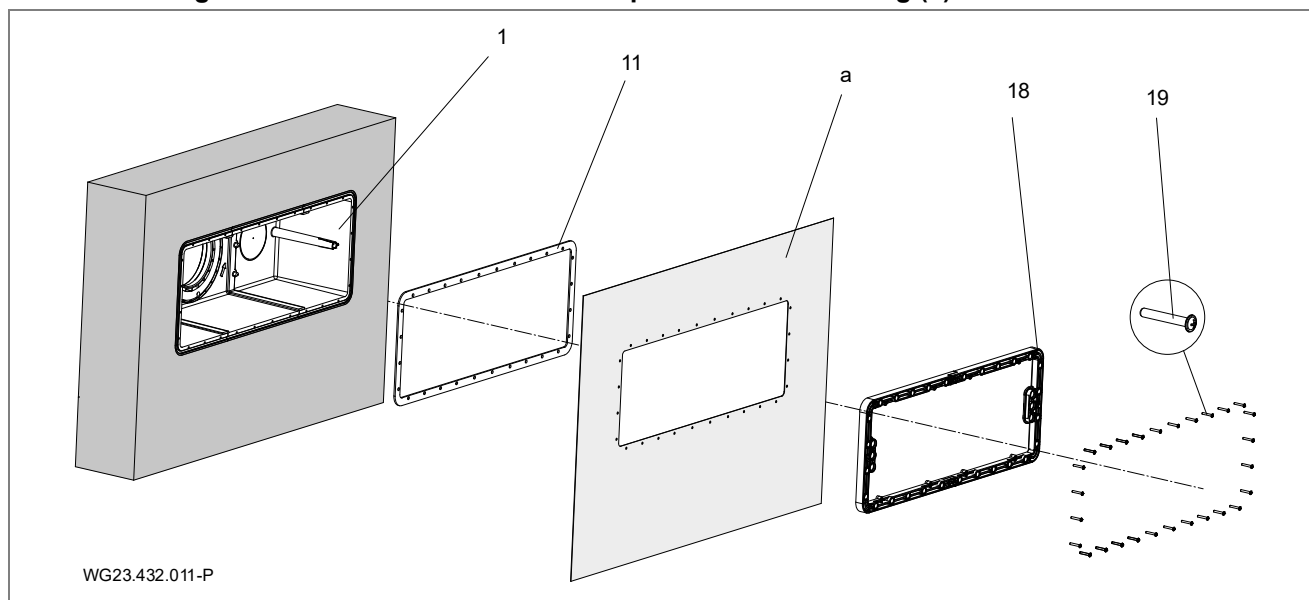

Fig. 7
It is recommended to lay a surrounding ring of epoxy resin/quartz sand at the pool-side outside wall of the housing (1) as a seal to the concrete wall. See "Fig. 7" on page 16.